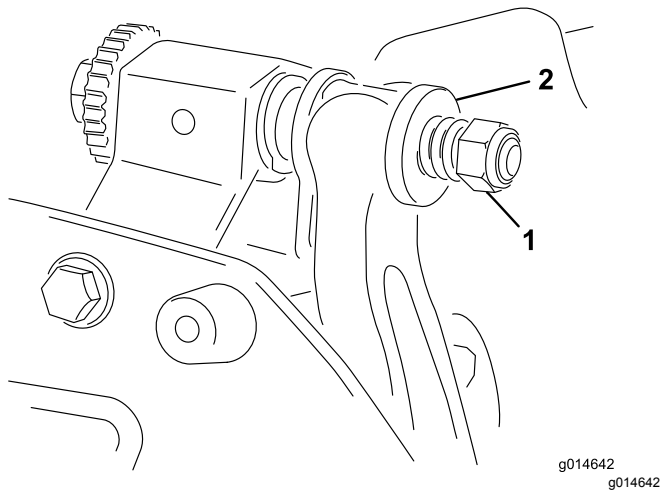

Figure 25
5. Tighten the spring tension nut until the spring is collapsed, then back it off 1/2 turn (Figure 25).